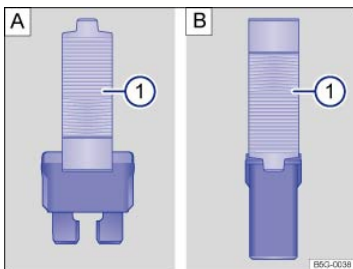

Fig. 167 Removing or installing a blade fuse with the plastic tweezers: : Blade fuse. : JCASE® fuse.
- Depending on the type of fuse, slide the tweezers ⇒ *Fig. 167 A* ① or ⇒ *Fig. 167 B* ① onto the fuse from the side.
- If the fuse is blown, replace the fuse with a new fuse of the *same* amperage (same color and same imprint) and *same* size ⇒ ①.